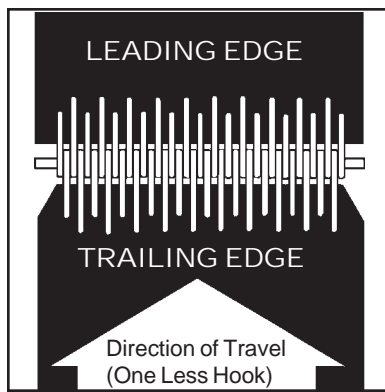

Figure 3
**5. CUT CARD TO 1/2" (4 HOOKS) LESS THAN ACTUAL BELT WIDTH, leaving 1/4" on each side of belt unlaced** (Fig. 3). The trailing edge should have 1 less hook than the leading edge. This helps prevent the splice from catching on the baler structure.